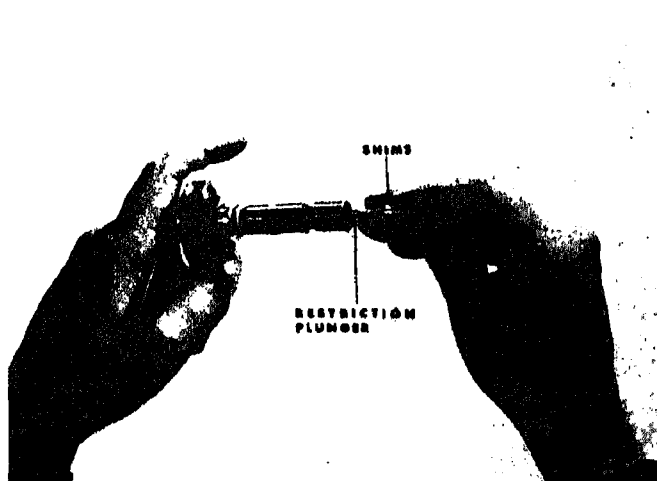

Fig. 510-10 Installing restriction plunger
**Note:** Install enough shims to bring the plunger flush with the fuel passage leaving it completely open. Fig. 510-10. Some throttle shafts do not have a restriction plunger in them.